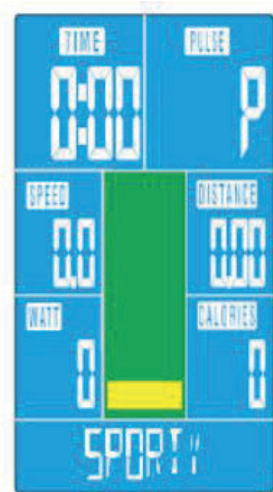

Fig. 10
1. Choose the program (Sporty) and confirm the choice with the MODE button (see fig. 10).